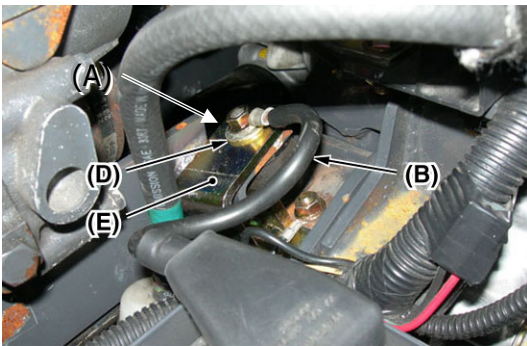

Fig. 9
8. Place the negative battery cable (B) to the engine stopper (E) and washer (D) with nut (A). Fig. 9
Torque the nut to 13-15 ft-lbs (18-20 N-m) Fig. 9